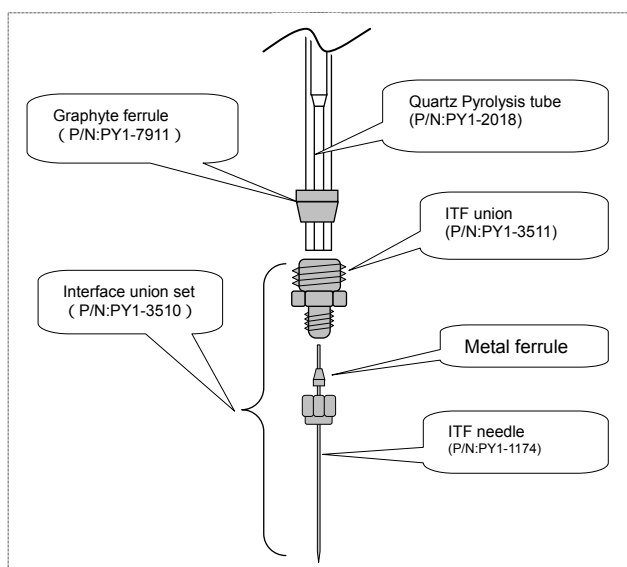

Fig.3.8 Quartz pyrolysis tube and ITF needle
STEP 6 Attaching quartz tube and ITF needle to Pyrolyzer (Figs. 3.8, 3.9 and 3.10)
1. Attach ITF needle to the ITF union using a 1/16" nut. After hand tightening, it must be further tighten by 1/8 turn using a wrench. (Fig. 3.8)
2. Insert the quartz pyrolysis tube from the bottom of the pyrolyzer. Start inserting the tube end with larger inner diameter while holding the bottom end and gently turning the tube, until it hits the sampler stand nut at the top of the Pyrolyzer (Figs. 3.8 and 3.9).
4. Insert a graphite Vesper ferrule at the end of the quartz tube and hand tightens the ITF union (Fig. 3.8).